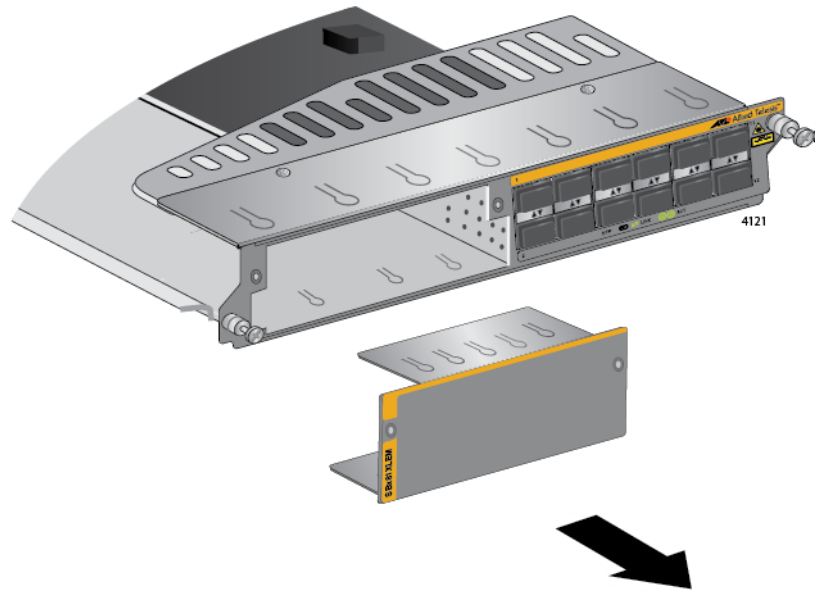

Figure 76. Removing the Blank Slot Cover from the AT-SBx81XLEM Line Card
5. Slide the blank slot cover from the slot. Refer to Figure 76 on page 148.